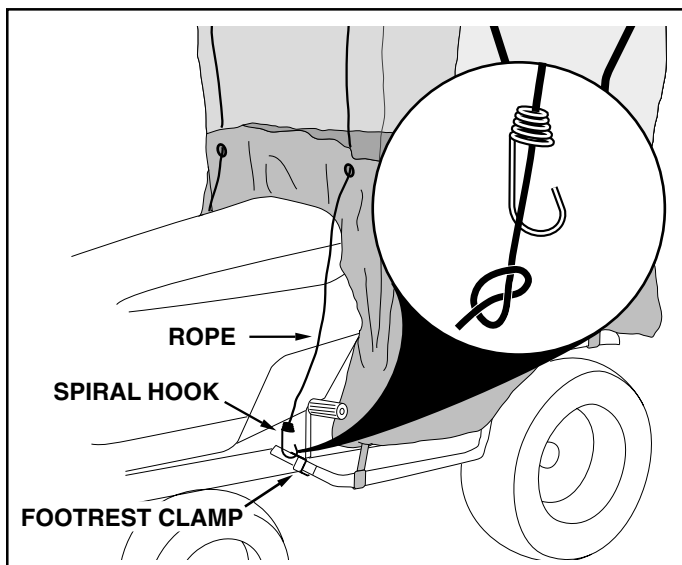

FIGURE 10
19. Insert one end of rope through a third spiral hook and tie a knot in end of rope. See figure 10.
20. Assemble spiral hook with rope attached through hole in footrest clamp. See figure 10.
21. Insert other end of rope through remaining spiral hook. Tie a knot in end of rope so that when hooked to other footrest clamp the rope is tight and canopy frame is stable. See figure 10.